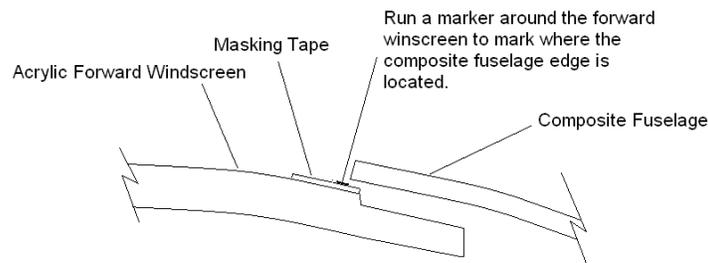

Figure 56-17 Forward Windscreen Showing Location of the Masking Tape
3. Apply a strip of tape around the edge of the forward windscreen. See Figure 56-17 for location of the tape.
7. Use a sharp permanent marker, and mark the tape on the forward windscreen along the edge of the opening in the fuselage, See Figure 56-17.